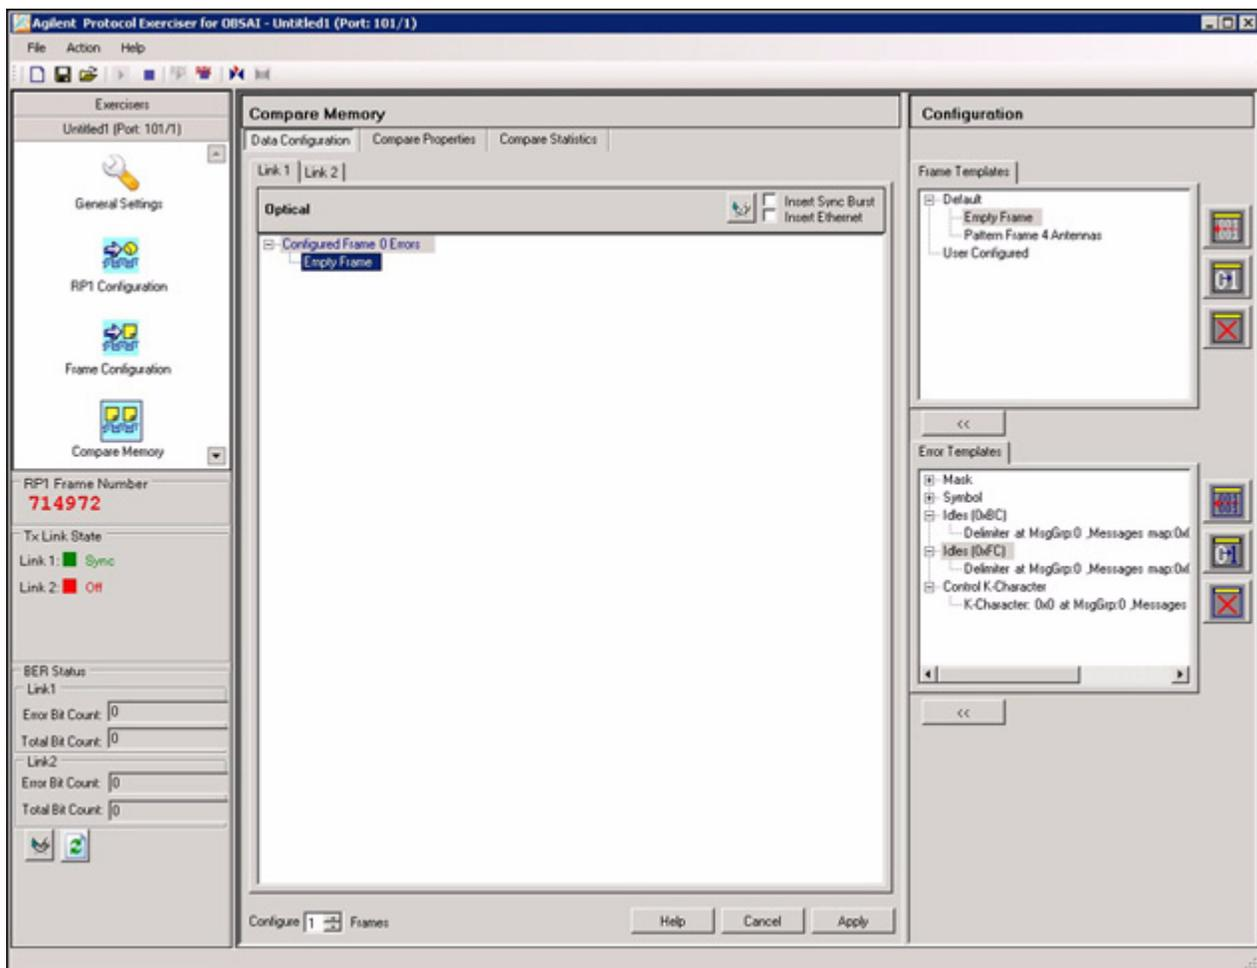

Figure 32 Data Configuration screen
- 1 Click **Data Configuration** tab as shown in the Figure 32.